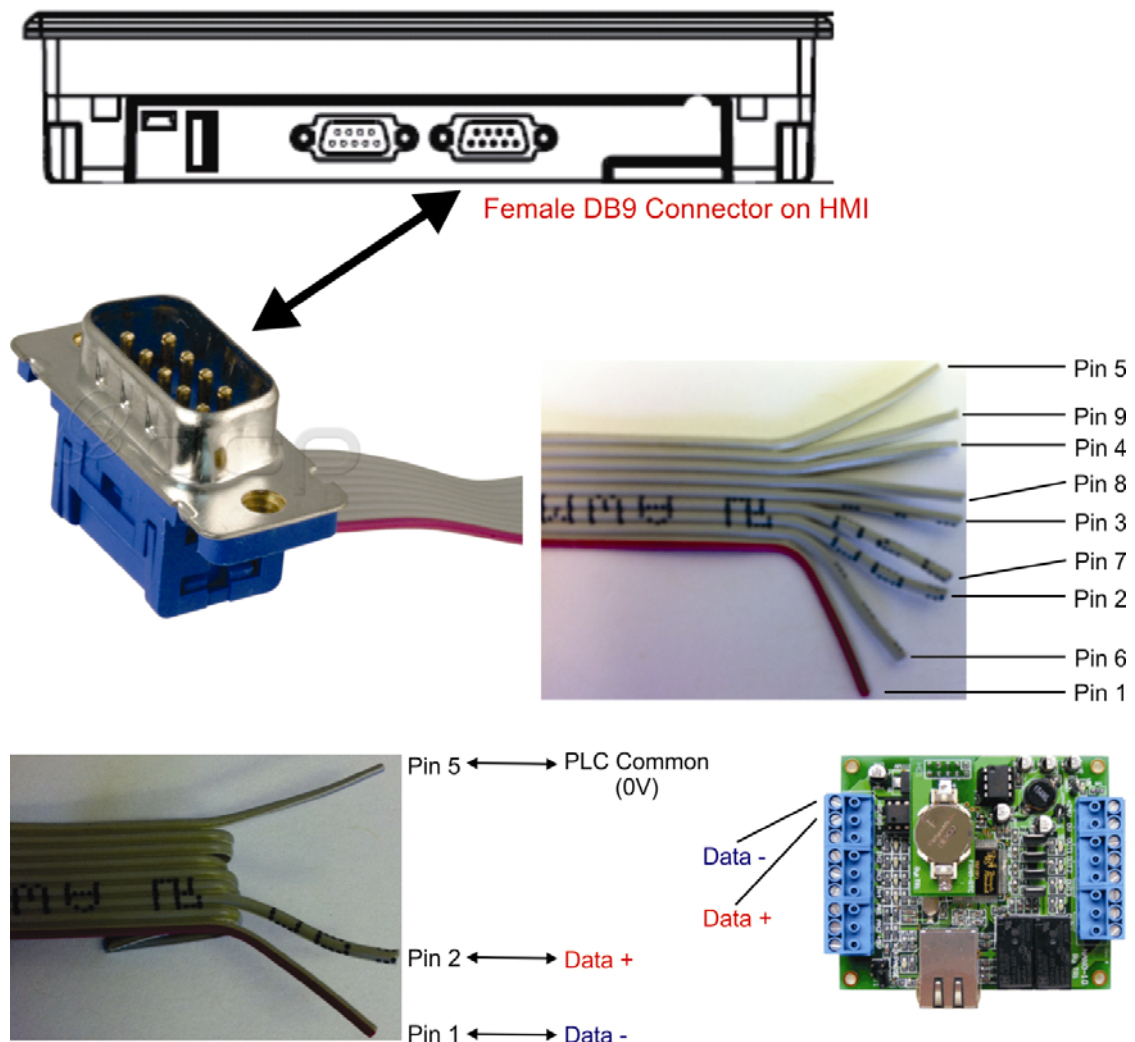

Figure 2: RS485 connection between MMI6070 and TRi PLC
3. The Nano-10 does not have an RS232 port, so the DB9 cable supplied with the MMI6070 must be modified or a custom cable must be built in order to interface the Nano-10 (or any TRi PLC RS485 port) to the HMI. Refer to Figure 2 below when creating/modifying the cable.
5. Make sure that “USB Cable”, “Firmware”, and “Reboot HMI after Download” are all selected as shown in Figure 2.